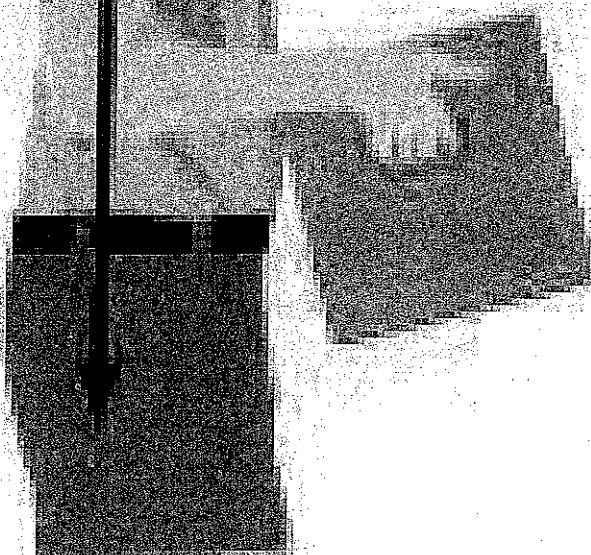

Figure 5. Lifting a 5 lb box directly up has the effect of lifting 5 lbs.
- Never travel with the load elevated. Elevating the load increases the load center distance by shifting the center of gravity upward and forward, making the forklift and the load less stable (Figure 5).